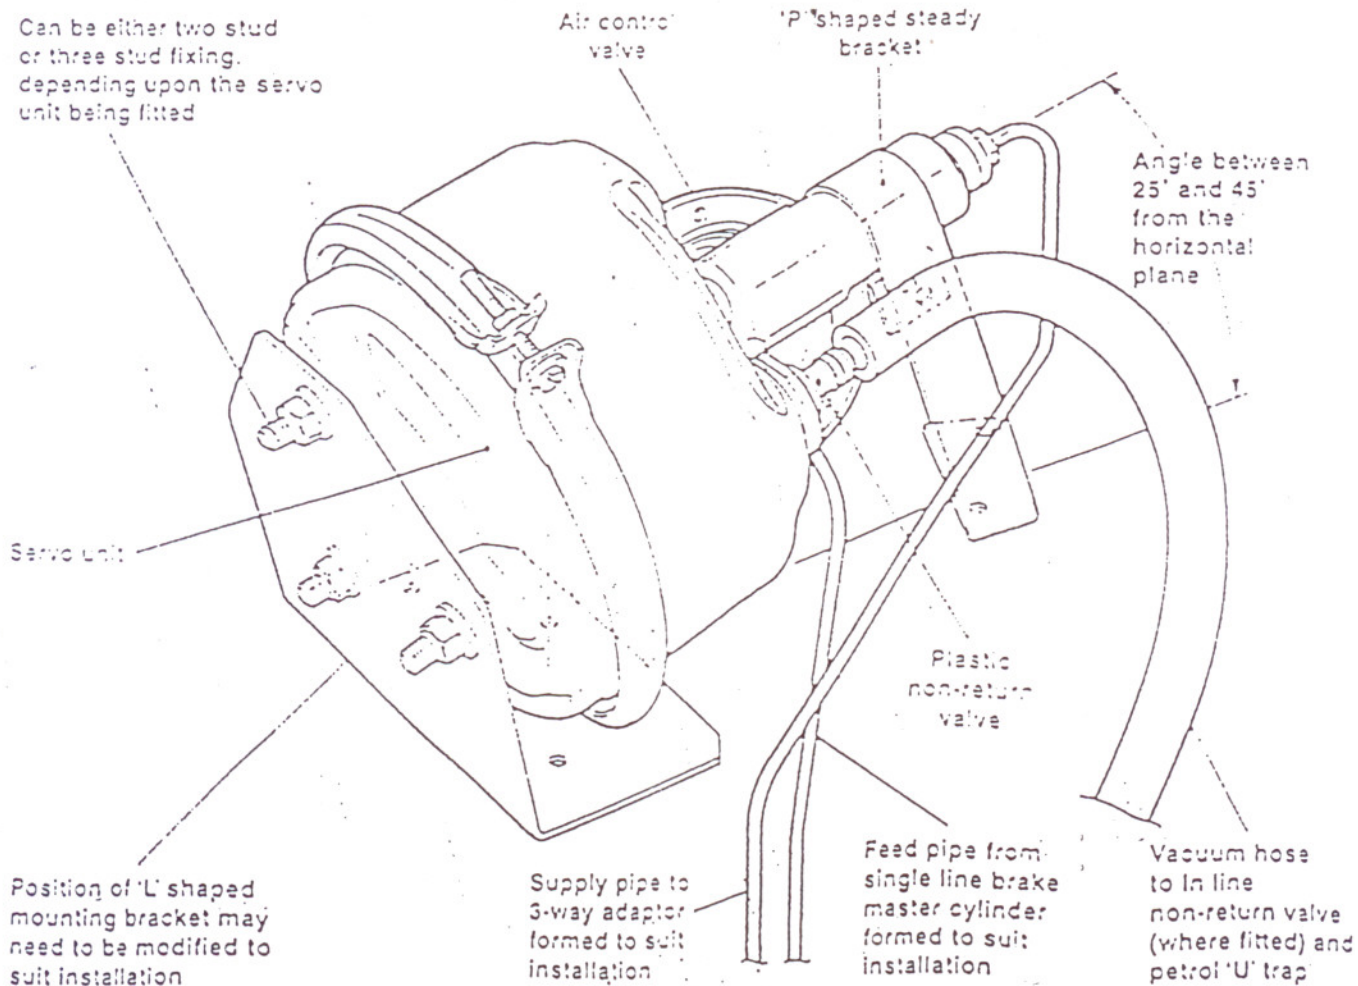
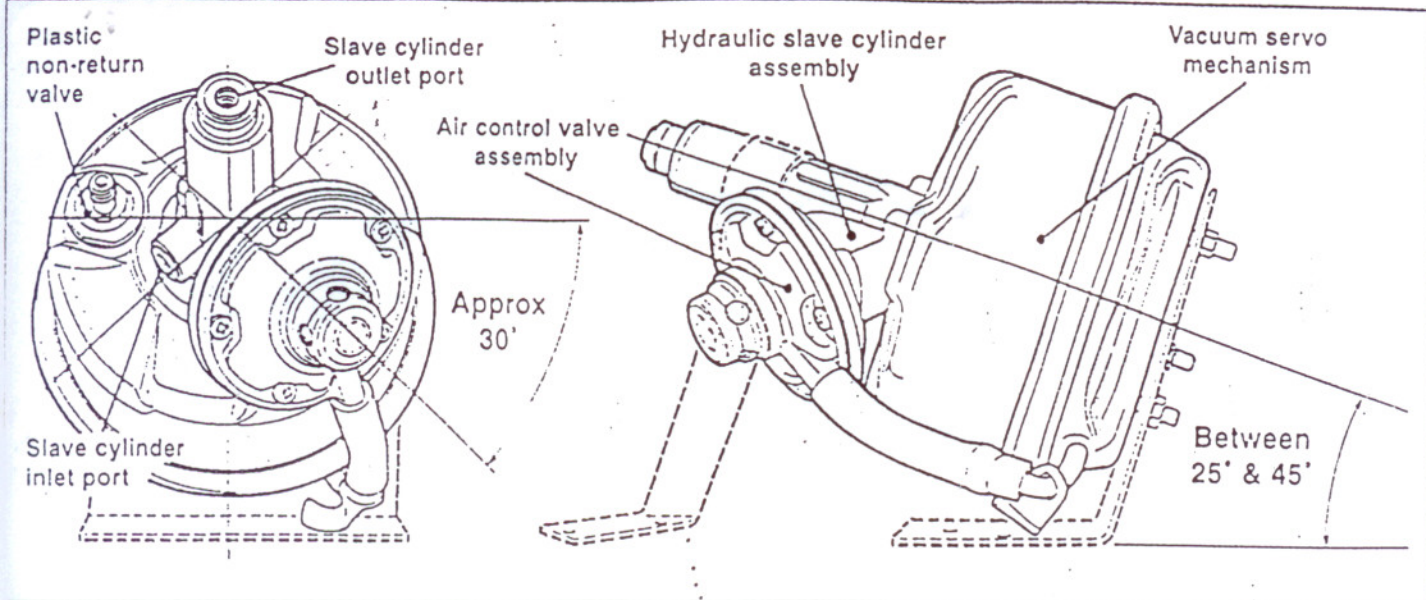

Fig.2
Fig.3
5. With the aid of the mounting brackets and fixings provided in the kit install the servo unit with the hydraulic slave cylinder outlet **port inclined upwards between 25° and 45° from the horizontal plane. (See Fig.2)**. The air control valve should be situated **at least 30° below the centre line** to assist when bleeding the hydraulic system. **(See Fig.3)**.